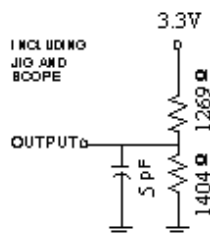

FIGURE 1B
3.) Address valid prior to or coincident with CE transition low. 4.) /OE = VIL. 5.) Transition is measured ±500mV from steady state with CL = 5pF as shown in Figure 1B. The parameter is guaranteed but not 100% tested.
10. Transition is measured $\pm 500mV$ from steady state with $CL = 5pF$ as shown in Figure 1B. The parameter is guaranteed but not 100% tested.